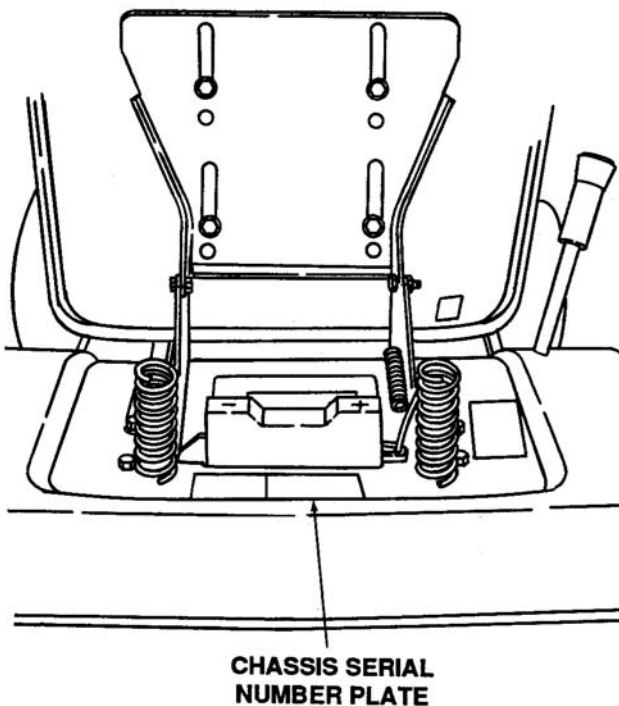

Figure 2-1.
- 2-3.1 Serial Number Location. Serial number plate is located behind the seat on the rear fender. See Figure 2-1.